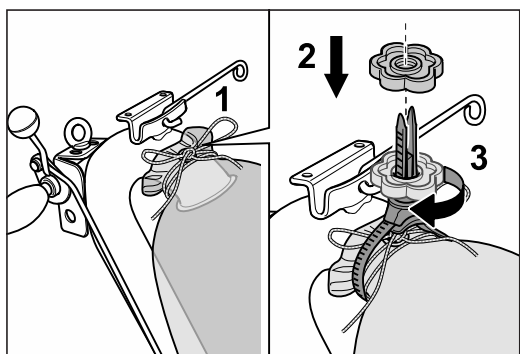

Fig. 10 Mount the dust bag without creasing using the cord (1) and the MultiClip (2 and 3).
- 6 Attach the dust bag with the cord and the MultiClip at the end of the guide tube (fig. 10) and make sure that the opening of the guide tube is not blocked.